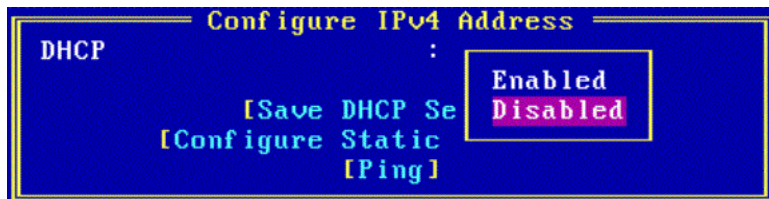

Figure 8-11 Configure IPv4 Address Screen
1. From the Configure IPV4 Address screen (Figure 8-11), select **Enabled** from the DHCP drop-down menu and press **<Enter>**.
1. From the Configure IPV4 Address screen (Figure 8-11), select **Configure Static IP Address** and press **<Enter>**.
1. From the Configure IPV4 Address screen (Figure 8-11) or Configure IPV6 Address screen (Figure 8-13), select **Ping** and press **<Enter>**.